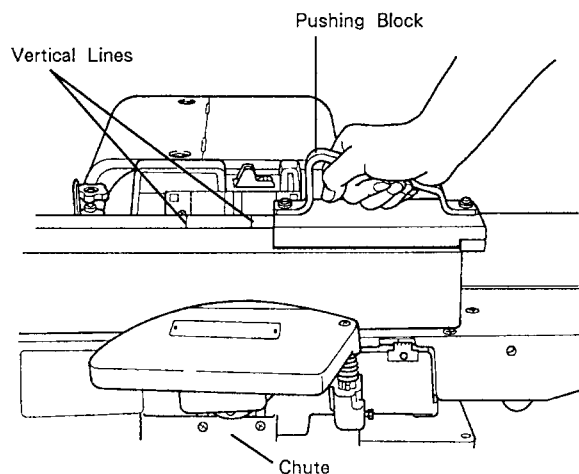

Fig. 7
- Use the standard accessory Pushing Block to feed thin or small material (Fig. 7).